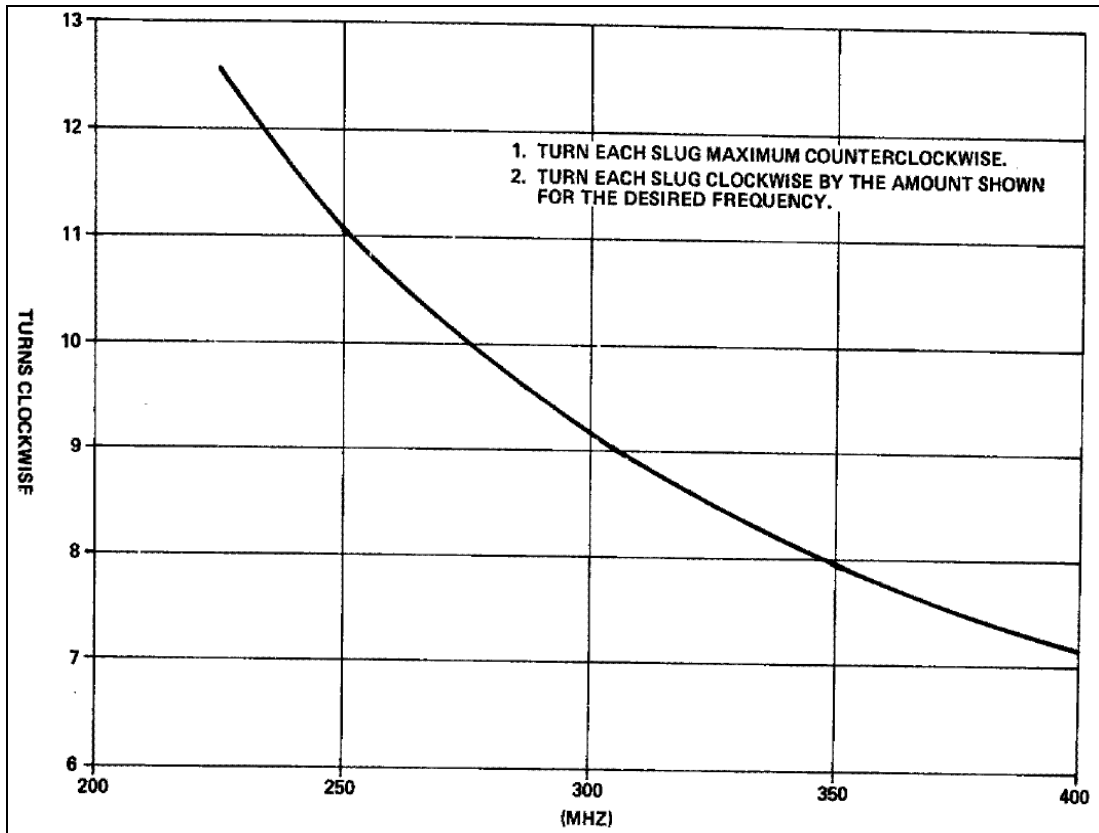
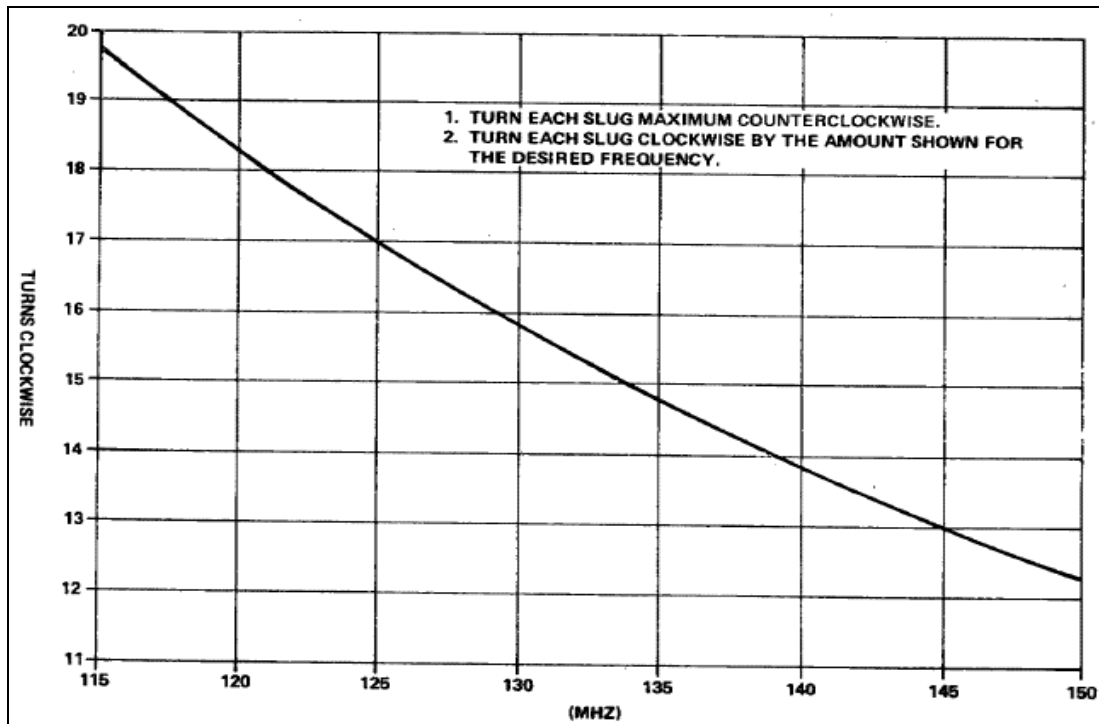

Figure 6. Tunable Filter Slug Turns by Frequency UHF
Figure 7. Tunable Filter Slug Turns by Frequency VHF
d. Turn each filter slug the approximate number of turns as required by figure 6 or figure 7.